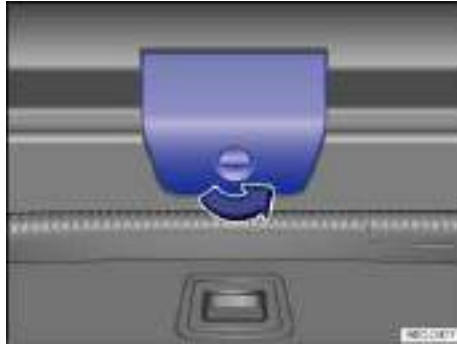

Fig. 180 Inside the luggage compartment: Cover for the rear hatch release.
- Open the cover ⇒ fig. 180 by turning the release in the direction of the arrow.